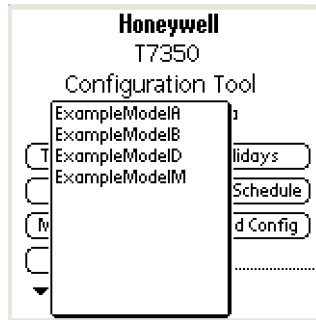

Fig. 28. Select Existing Config.
1. From the opening screen, tap Select Existing Config. (See Fig. 28.)